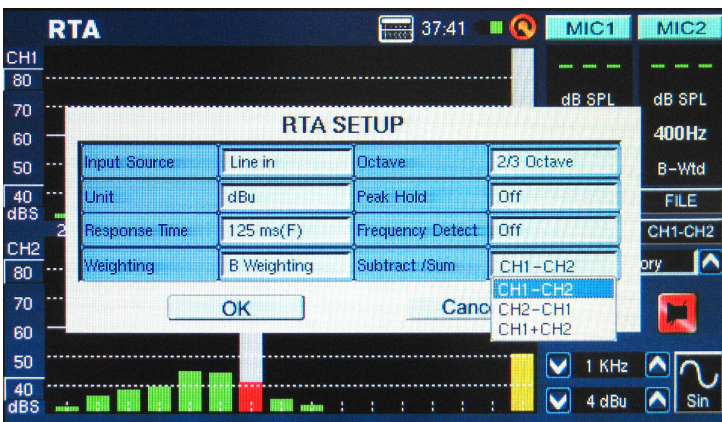

figure 29
- You may also want to adjust the response time, weighting, octave, peak hold, frequency detect and Subtract/Sum (figure 29) properties.